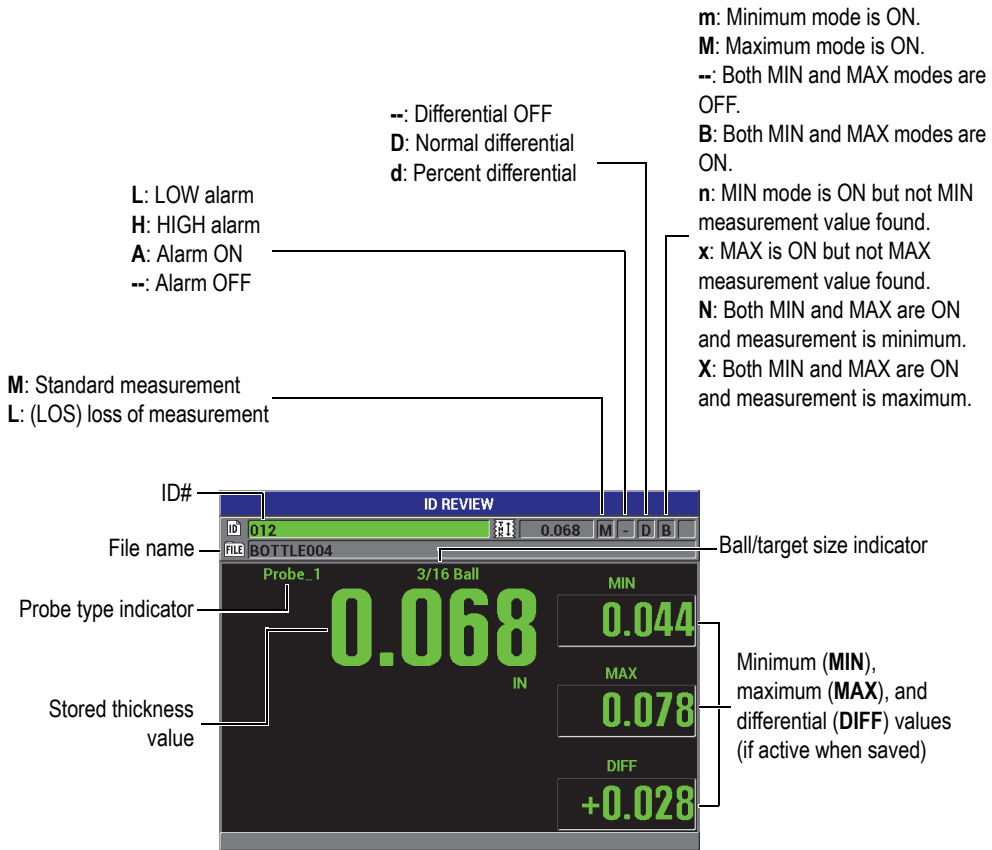

Figure 7-15 The ID REVIEW screen
Figure 7-15 on page 130 shows an example of ID review screen and describes its contents. The flags are the same single letter abbreviations for status words that are transmitted by the gauge using the send commands.
2. In the measurement screen, press **[ID#]**, to open the **ID REVIEW** screen (see Figure 7-15 on page 130):